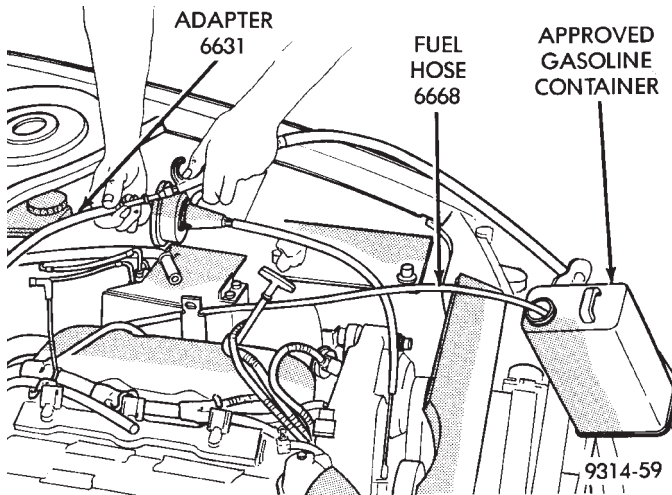

Fig. 28 Purging Fuel From Rail
(4) Place the other end of fuel hose 6668 into an approved gasoline container.
(5) To purge fuel from rail, spray a maximum of 379 kPa (55 psi) of compressed air into the end of adapter 6631 (Fig. 28).